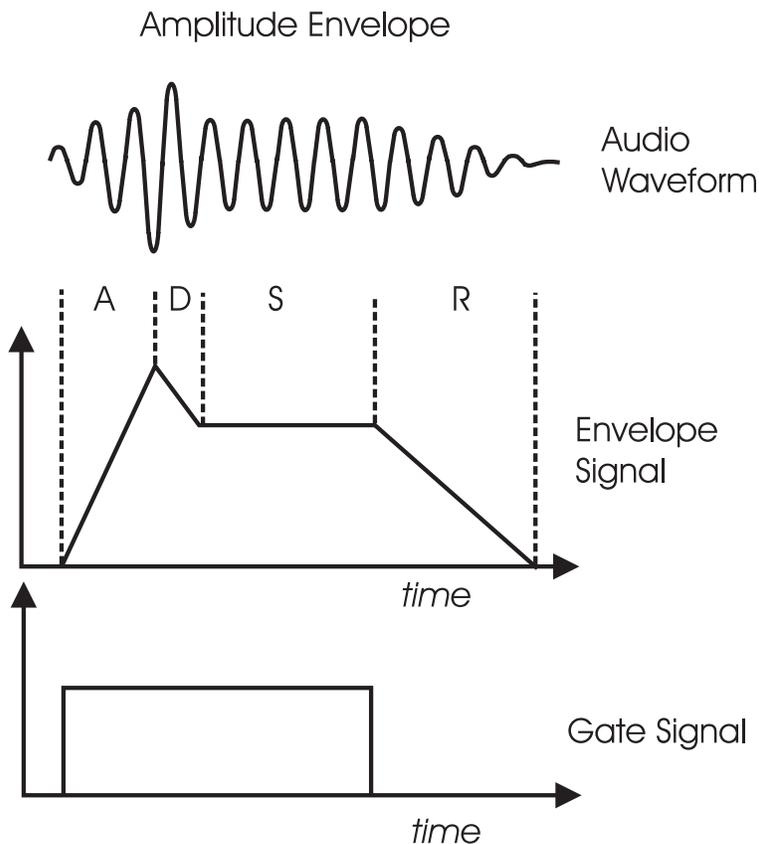

figure 9
*Attack*, measured in time, specifies the onset or transient of a sound. With Volume for instance, the sound might start suddenly as does a plucked string sound, or fade in slowly like a bowed string crescendo. *Decay* is also measured in time and specifies how quickly the onset of a sound fades into the sustained portion. *Sustain* is the level at which a sound sustains after the initial transient. *Release* is measured in time and determines how long a sound takes to fade away after a note is released. These four components make up an ADSR envelope generator. An envelope control signal has to be started and stopped. The start and stop is triggered by what is called a *gate signal*. A gate signal is either on or off. When it goes on, the Envelope generator is started, when the gate goes off, the release segment of the envelope begins. (figure 9)